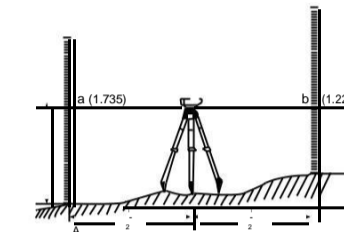

Fig.5
- (1) Set up the instrument between A and B.
- (2) Set up the staff vertically at A,the height reading is a.
- (3) Set up the staff vertically at B,the height reading is b.
- (4) The reading of height distance between A and B is a-b (Fig.5) $h=a-b$